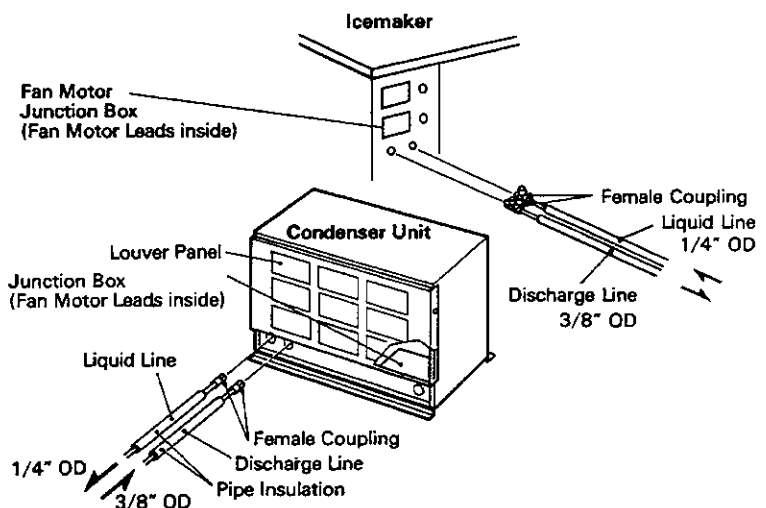

Fig. 12
- 3) Install enough length of two copper tubings provided with Aeroquip couplings between the icemaker and the condenser unit. The two copper tubings should be insulated separately. (See Fig. 12.)